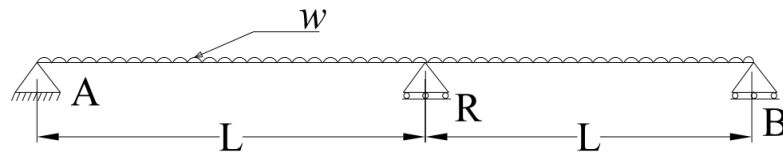

Fig.10
7. (a) A beam (refer Fig.10) of uniform section and of length 2L is freely supported by rigid supports at its ends and by an elastic prop at its centre. If the prop deflects by an amount λ times the load it carries and if the beam carries a total distributed load of W show that the load carried by the prop is $\frac{5W}{g(1 + \frac{6EI\lambda}{L^3})}$